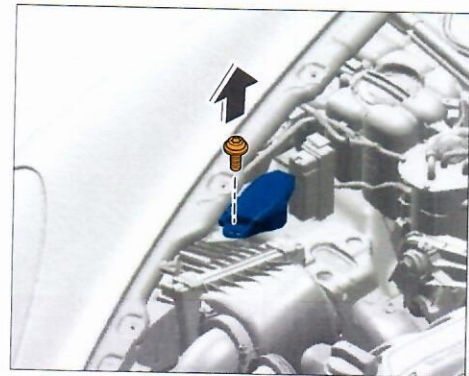

Figure 37
- 5.7 Screw in fastening screw ⇒ *Figure 37* **-arrow-** on the filler tube for the wind-screen washer system reservoir.